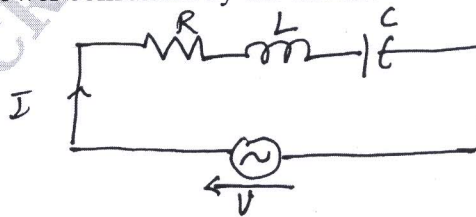

Fig.Q3(b)
- b. A circuit shown in Fig.Q3(b) consists of a resistance of 10Ω , an inductance of 16mH and a capacitance of $150\mu\text{F}$ connected in series. A supply of 100V , 50Hz is given to the circuit. Find the current, p.f and power consumed by the circuit.